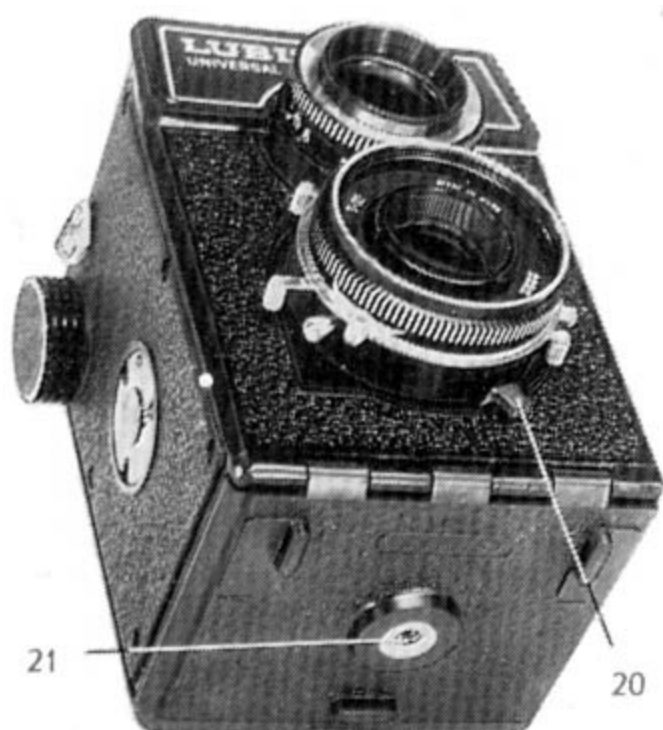
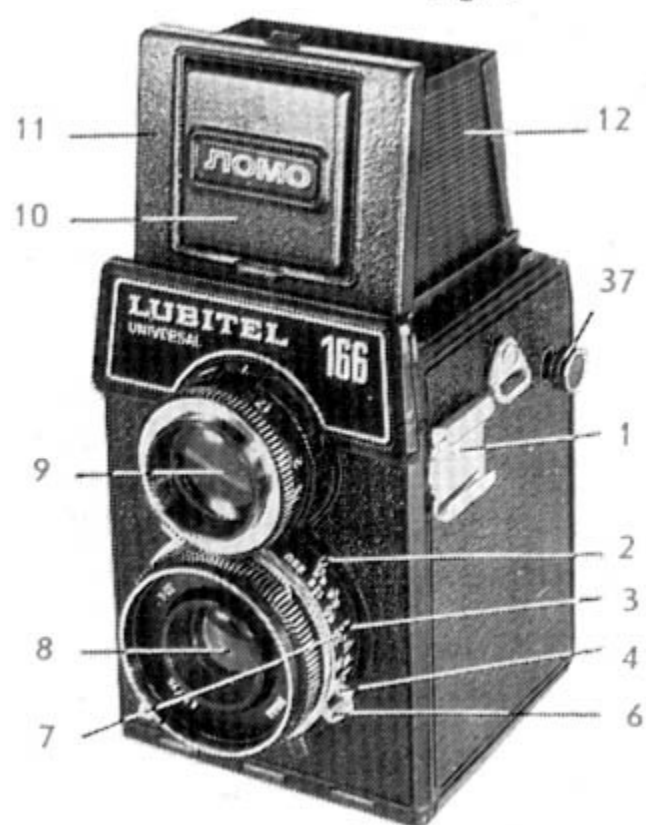

Fig. 4
Fig. 2
The diaphragm serves for the control of light opening diameter. The stopping down is performed by moving the lever (20) [Fig.4] with pointer (2) [Fig.2]. The lens is stopped down when increase of the depth of field is desirable or when the available light is too intensive. Photographic lens depths of fields with different diaphragms and distances are given in the table.